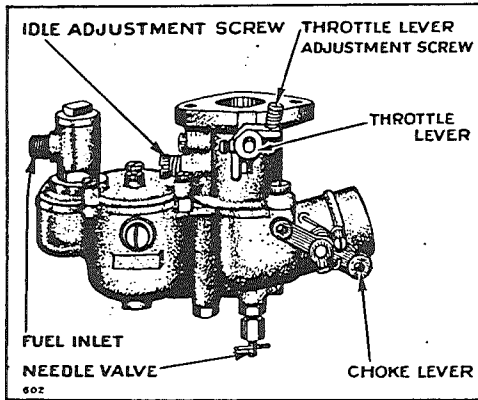

Fig. 11.
52. The carburetor used on your Model "R" Motor is shown in Fig. 11. As received from the factory it is properly adjusted. However, if it has been tampered with, it can be adjusted over again as follows:
54. **High Speed Adjustment (See Figure 11).** Close the needle valve adjusting screw (high-speed adjustment) located on the carburetor, by turning clockwise all the way in (never force the needle against its seat.) Then open the needle valve one and one-half turns.